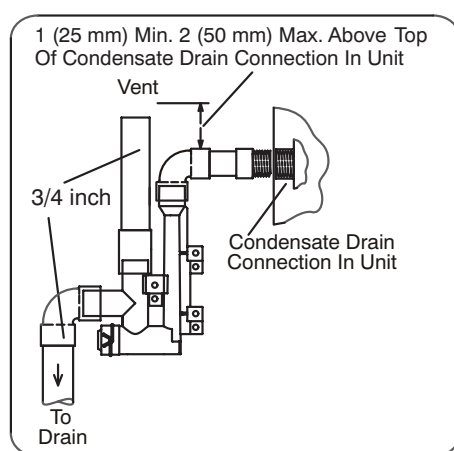

FIGURE 42
Install the cap over the clean out opening at the base of the trap. Secure with clamp. See FIGURE 42.
- 3 - Install drain trap using appropriate PVC fittings, glue all joints. Glue the provided drain trap as shown in FIGURE 42. Route the condensate line to an open drain.